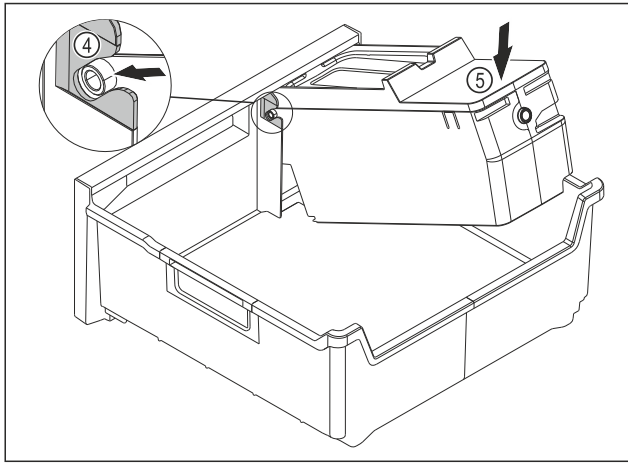

Fig. 145
- ▶ Installing the EasyTwist-Ice body: Push the axes for the EasyTwist-Ice body into the guides Fig. 145 (4).
- ▶ Press the EasyTwist-Ice body Fig. 145 (5) down at the back.